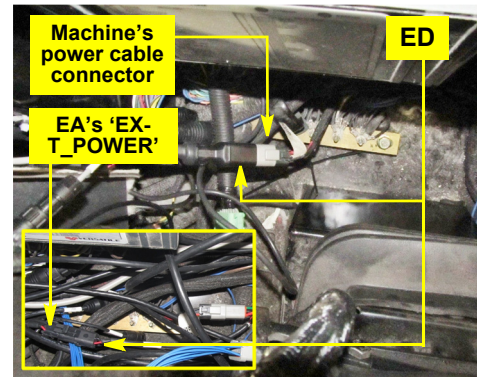

Figure 3b: Power connections
- b. Locate the machine's power cable connector in the right rear of the cab (Figure 3b, near the connections made in step 3a). Connect power cable **ED** to the machine's connector (Figure 3b).
Connect **ED**'s branch cables to **EA**'s branch cables labeled 'RMT_ENGAGE', 'EXT_POWER' (Figure 3b inset) and your terminal's power cable.